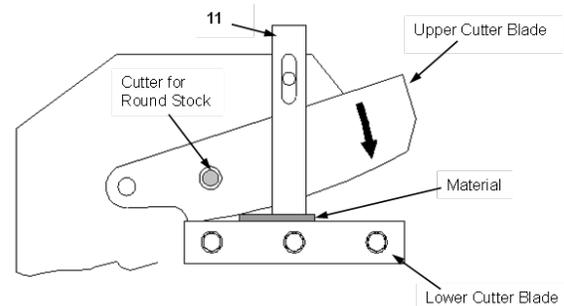

Figure 6-1
1. To cut flat bar, lay it across the lower cutter blade. Gently push the material forward until it contacts the upper cutter blade (see fig 6-1). By doing so, you will be getting the most cutting force at the point of contact.
1. Make sure the upper cutting blade is in the up position and then insert the round material into the cutter opening. Fig. 6-1.